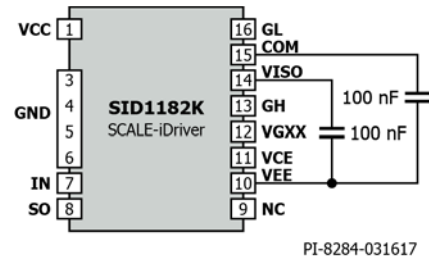

Figure 3. VEE-Regulator Capacitor Connection for the SCALE-iDriver IC.
- Do not connect the VEX pin for SCALE-2 and SCALE-2+ gate drivers. When using the SCALE-iDriver gate driver, connect 100 nF capacitors between the VISO and VEE pin and between VEE and COM pins (refer to Figure 3). No other VEE pin modifications are required.